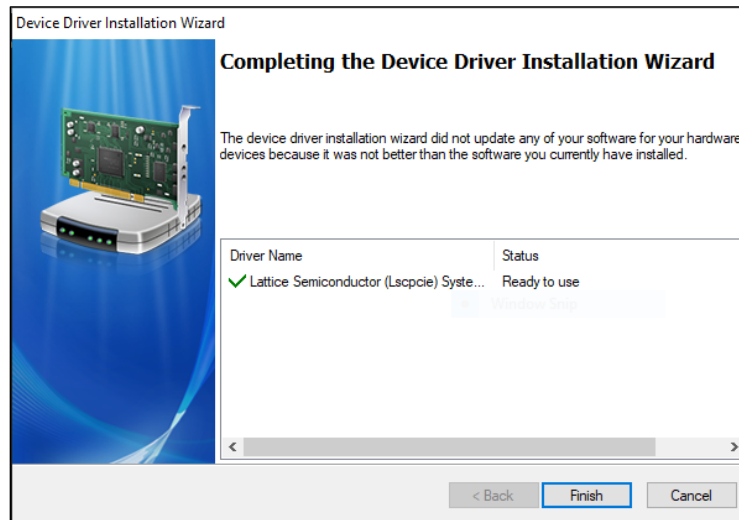

Figure 5.34. Device Driver Installation Completed
10. If the driver is installed successfully, a message is displayed as shown in Figure 5.34.